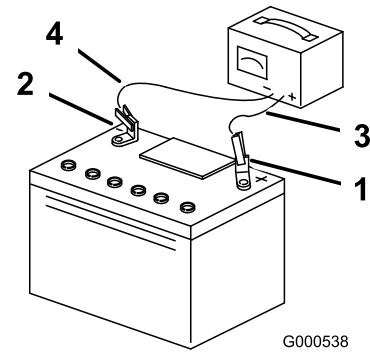

Figure 41
- When the battery is fully charged, unplug the charger from the electrical outlet, then disconnect the charger leads from the battery posts (Figure 41).